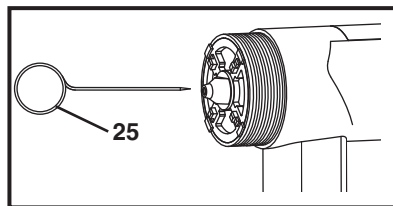

Fig. 15
- > Carefully clean all the disassembled parts with a cleaning agent. Use a cleaning needle (25) to remove any paint residue from the nozzle hole (Fig. 15).
- To store the product, attach the cup (18) to the spray gun.
- > Turn the fluid adjustment knob (16) anticlockwise to open which will reduce spring tension on the needle fluid tip.